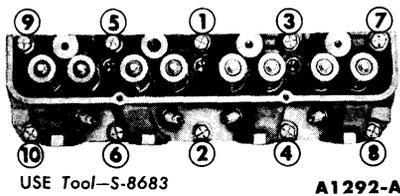

FIG. 27—Cylinder Head Bolt Tightening Sequence
5. Install the cylinder head bolts. The cylinder head bolts are tightened in three progressive steps. Torque all the bolts in sequence (Fig. 27) to 70 ft-lbs, then torque them to 80 ft-lbs, and finally to 90 ft-lbs. **After the cylinder head bolts have been torqued to specifications, the bolts should not be disturbed.**